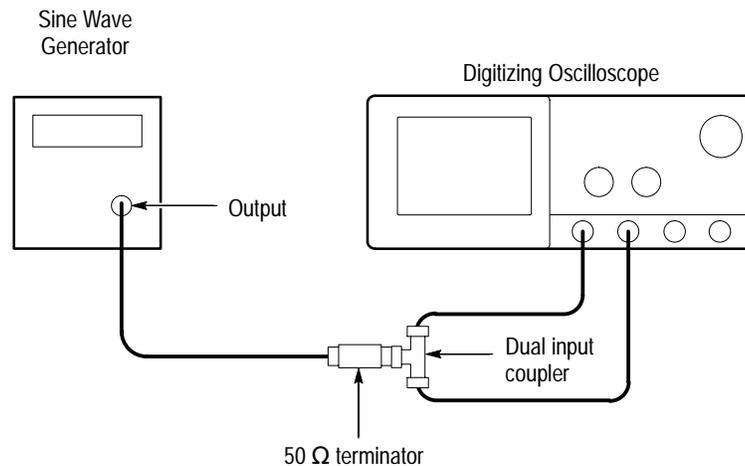

Figure 4–10: Initial test hookup
- Connect the sine wave output of a sine wave generator (item 19 or, optionally, 25) to a 50  $\Omega$  precision coaxial cable followed by a 50  $\Omega$  termination, and a dual-input coupler. See Figure 4–10.
- Connect the coupler to both **CH 1** and **CH 2**. See Figure 4–10.